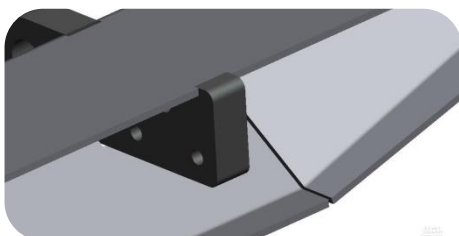

Figure 2
2. Insert the d-ring mounts into the slots provided and tack weld in place. **(Figure 2)**